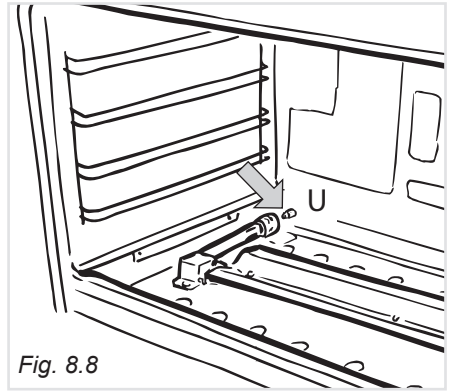

Fig. 8.8
- Using a 10 mm box spanner, unscrew the injector **U** (indicated by the arrow in fig. 8.8) and replace with a new injector selected in accordance with the "Table for the choice of the injectors"; then replace the burner repeating the above steps in reverse order.